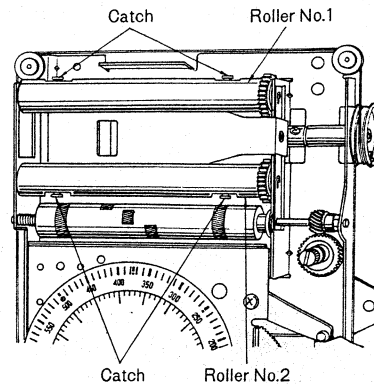

Fig. 11
4. When removed the rollers, set the roller no. 1 and 2 at the position, as shown in fig. 11.